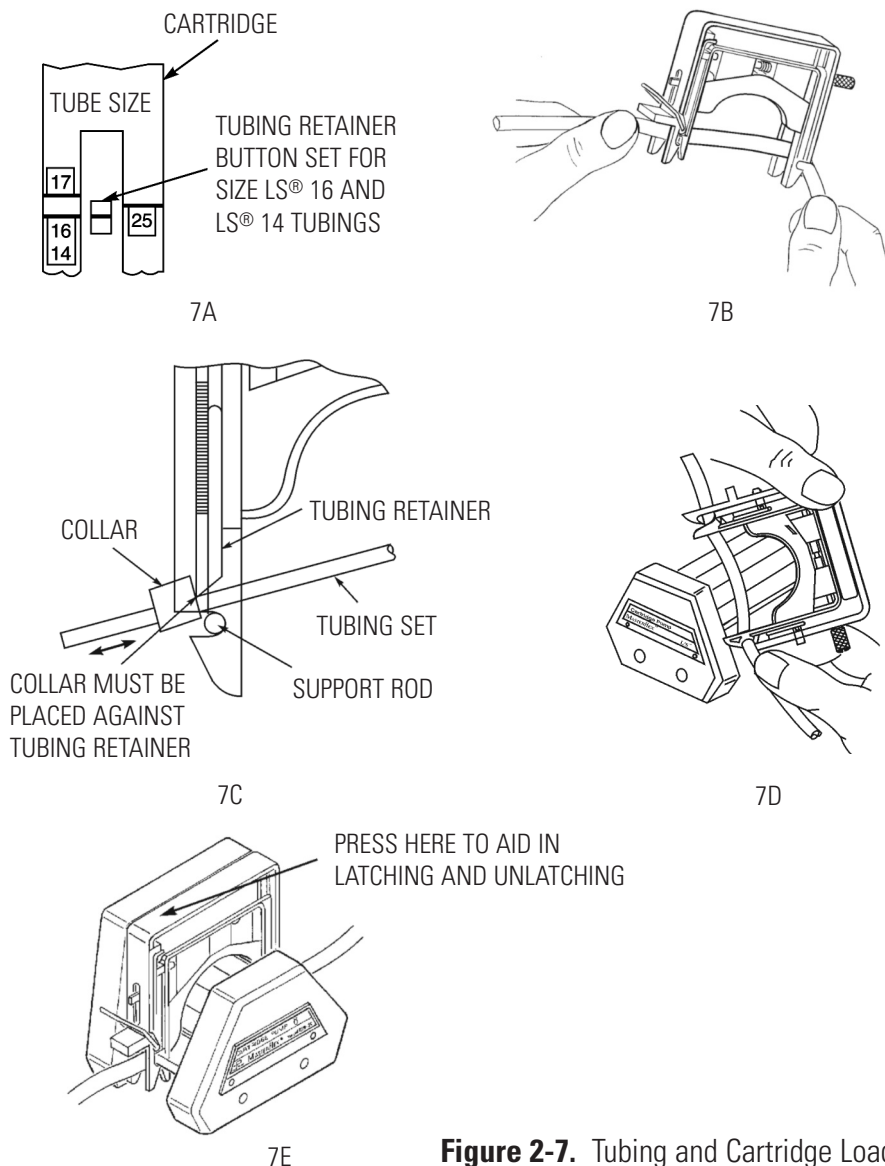

Figure 2-7. Tubing and Cartridge Loading
2. Set the Tubing Retainer according to tubing size (see Figure 2-7 A) when using the large Cartridge. (See *Recommended Occlusion Settings Table*) No retainer adjustment is required when using the small Cartridge. (Note: The retainer button located on the Occlusion Adjustment Knob-side of the large Cartridge is a loose component and may fall out. To reassemble, push it back into place while pressing in the button.)